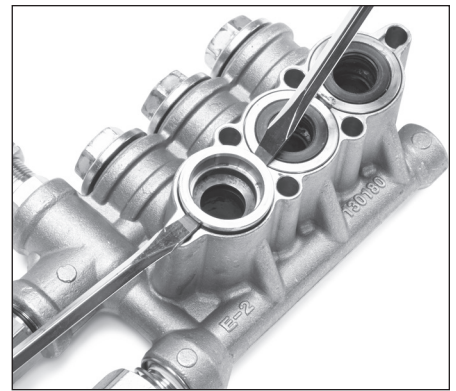

Figure 6
4. Use two (2) flat tip screwdrivers to remove seal cases from manifold (See Figure 6).